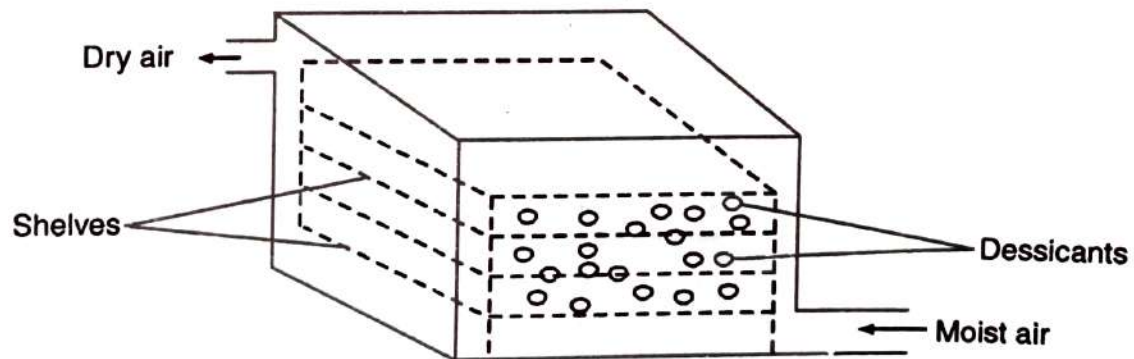

Fig. 11.11. Batch dehumidifier.
(A) In the batch process, there is no movement of the desiccant—they are periodically removed, recharged and loaded back into the system. At the best, they may be loaded on circular discs or plates, connected centrally through a shaft and to a motor running at a very slow speed for easy unloading and loading of desiccants. Fig. 11.11.